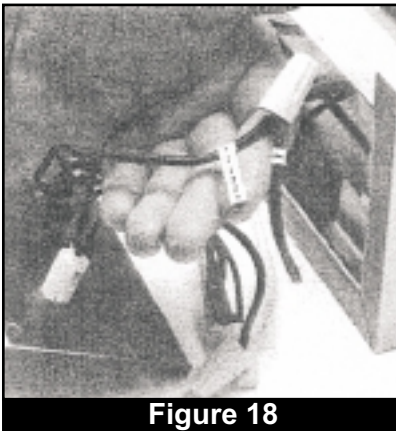

Figure 18
2. Mark all the wires connected to the power cord with a color code or number to make proper re-connection easy. (Fig. 18).